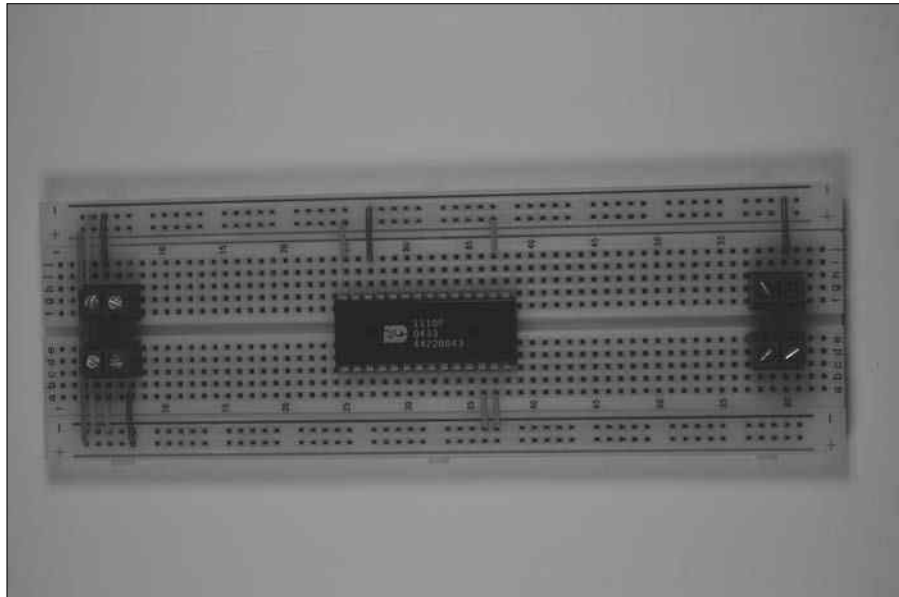

Figure 14-6:
3. Insert wires to connect each component and terminal to the +V bus and insert a wire between the two +V buses to connect them, as shown in Figure 14-6.